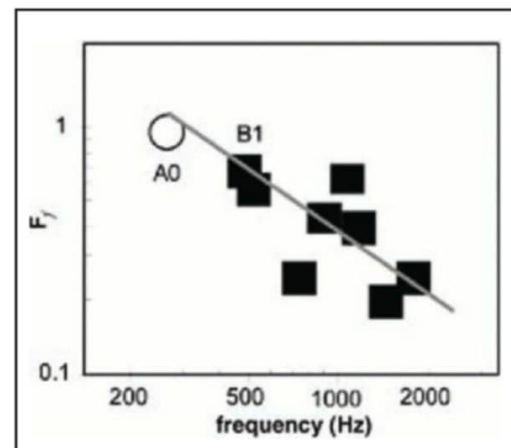
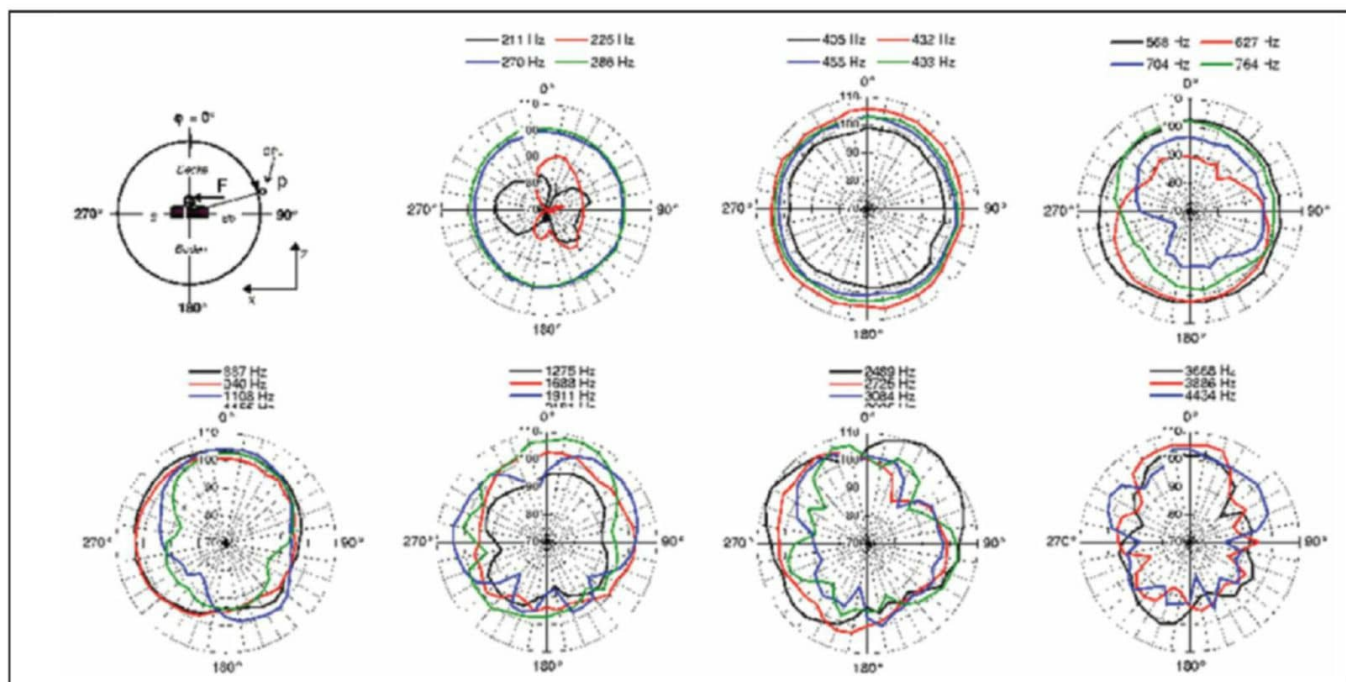

Figure 3: Fraction of sound radiated from the f-holes of a violin between 200 Hz and 2000 Hz
Figure 4: Directional radiation patterns of a violin
**Figure 3** simplifies the picture by plotting the fraction of total radiation of sound from the f-holes. Note that higher frequencies are mainly radiated from other parts of the violin.[1] **Figure 4** shows the radiation pattern of a specific Guarneri violin at different frequencies.[2]